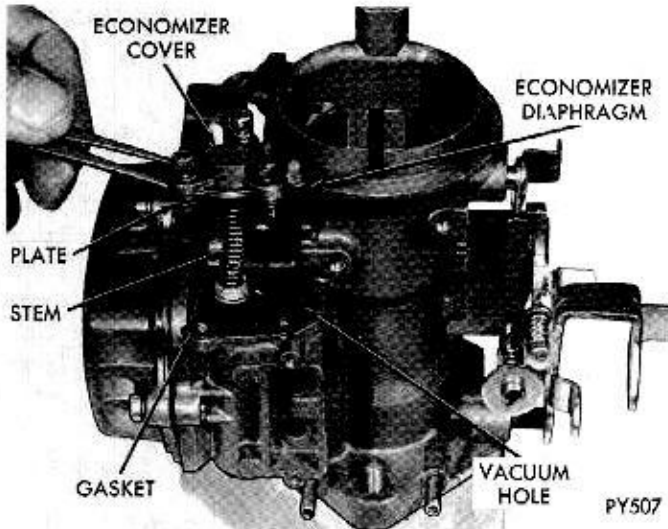

Fig. 5—Removing or Installing Economizer
(6) Remove economizer retaining screws, then lift economizer cover, diaphragm and stem out of carburetor, (Fig. 5).